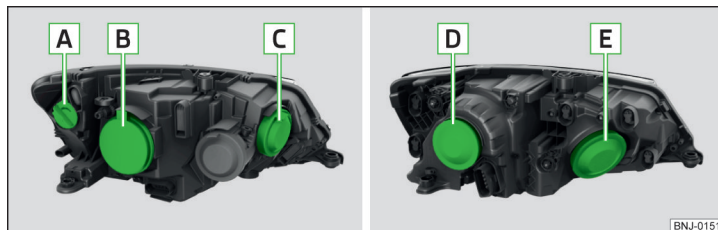

Fig. 182 Principle sketch: Halogen headlights/halogen projector headlights
Bulb arrangement » Fig. 182
- Remove the protective cap **B** » Fig. 182 on page 186.
- Fit protective cap **B** » Fig. 182 on page 186.
- Fit protective cap **C** » Fig. 182 on page 186.
- Remove the protective cap **D** » Fig. 182 on page 186.
- Fit protective cap **D** » Fig. 182 on page 186.